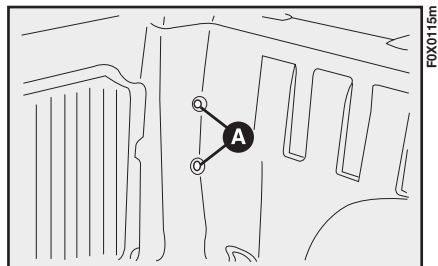

fig. 135
- undo the screws A-fig. 135 then pull out the entire unit;